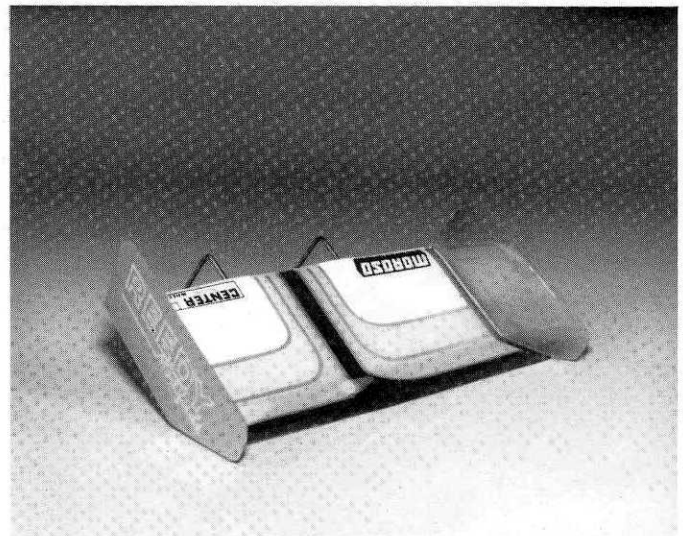

Fig. 162
□ **Fig. 162** Now you will have to figure out your paint scheme and mask the body off. Use automotive masking tape for best results. **PAINTING TIPS:** When painting, do the darkest color first, and the lightest color last, so the dark color won't 'ghost' through the light color. This means the first thing you mask off is the section which will be painted white. The next section you mask off is the lightest color next to white and so on.